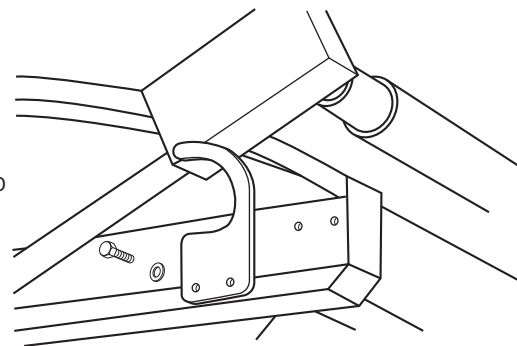

Figure 21
15) See Figure 21. Raise the roll-up bar past the corner of the tub to allow the installation of the tarp stop hook (4). Install a tarp stop hook (4) at each end of the tub using the 5/16-18 cap screws (8), 5/16 flat washers (9), and 5/16-18 nylon hex nuts (10) provided.